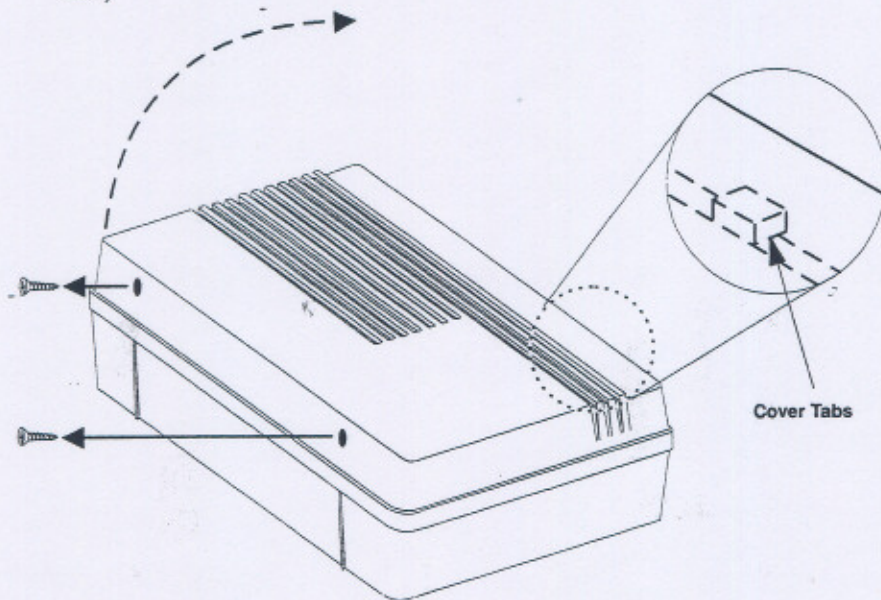

Figure 2.1 Plastic Enclosure Cover Removal
1. Remove the two cover screws, lift cover off the cover tabs, and set aside. (See Figure 2.1.)